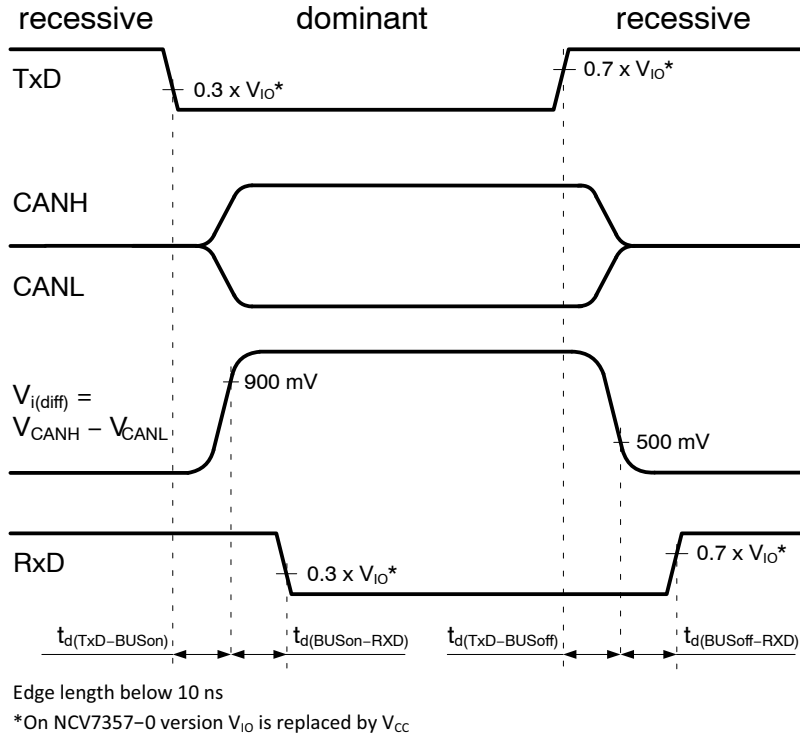
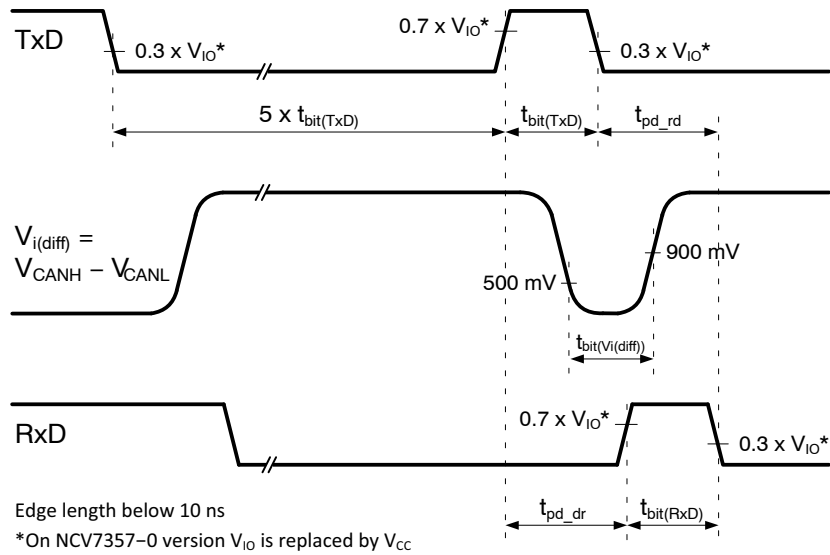
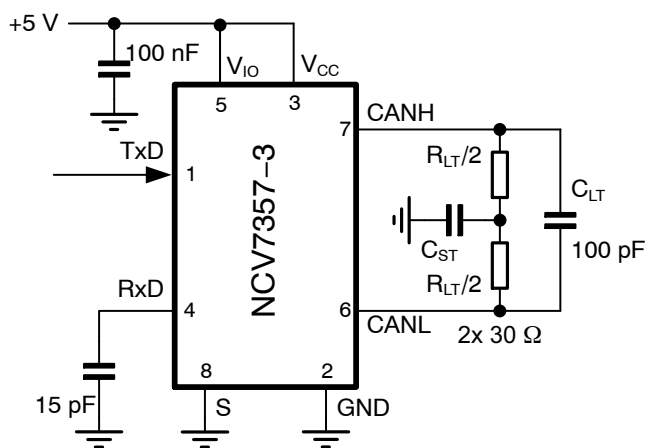

Figure 5. Transceiver Timing Diagram – Propagation Delays
Figure 6. Transceiver Timing Diagram – Loop Delay and Recessive Bit Time
Figure 8. Test Circuit for Timing Characteristics
**TIMING CHARACTERISTICS (see Figure 5, Figure 6 and Figure 8)**